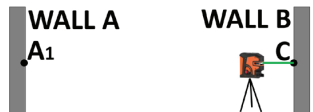

Figure 21
3. Set laser next to Wall B and adjust beam to height C. (Figure 21)